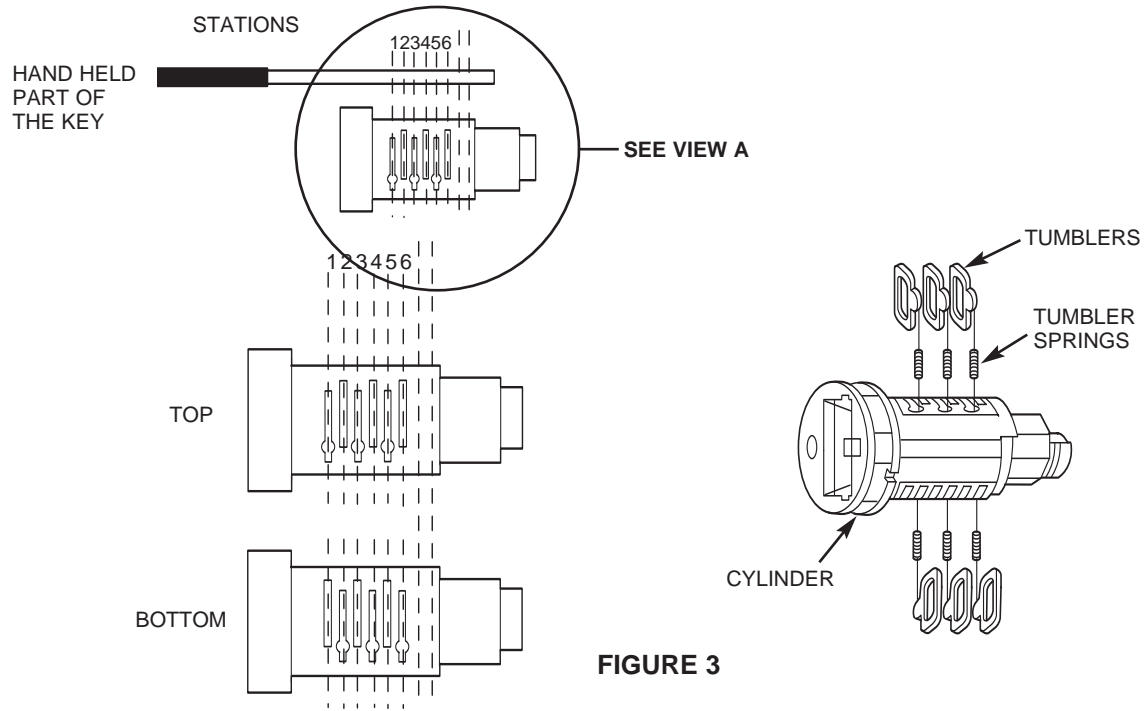
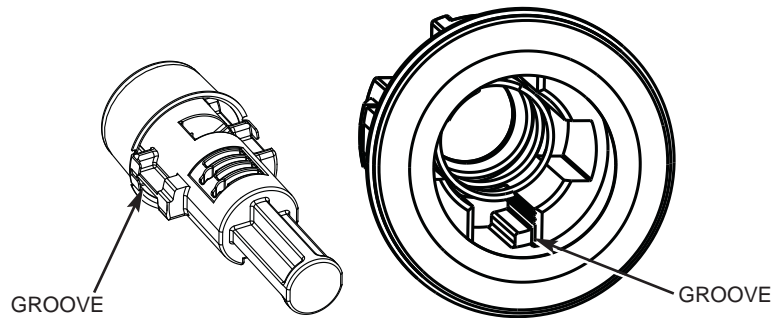

FIGURE 3
FIGURE 4
3. Insert one tumbler spring (C) into each of the holes located at the end of the tumbler wards on the lock cylinder sub-assembly (D).
4. Insert the required tumblers (B1- B5) into the tumbler wards in the proper orientation (refer to Figure 3), and in the sequence that matches the key cut depths, for key stations 1, 2, 3, and 4.
6. Place O-ring (I) around cylinder sub-assembly's stainless steel cap from the front, and set flush against the groove towards the back of the cylinder cap.
7. Apply the supplied grease (E) to the tumbler wards and at the inner face of the case cap (J) where the O-ring will seat.
8. Insert the compression spring (G) into the case (F).
9. Place cap on the cylinder sub-assembly, resting it on the o-ring. Insert the key in the lock cylinder sub-assembly while gently pushing on tumblers. Then insert the lock cylinder sub-assembly fully into the case on top of the spring by lining up the groove on the cylinder with the groove on the case (refer to Figure 4).